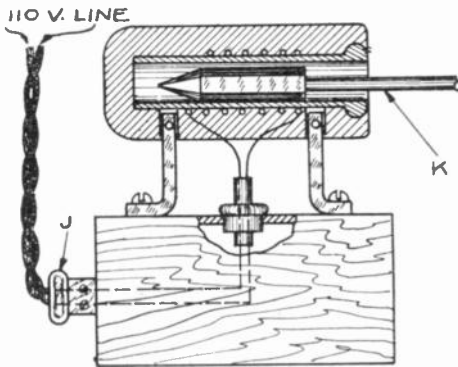

FIG. 6
All that will be necessary to connect the furnace will be to slip a connecting plug (J), Fig. 6, on the connection (I). A flatiron cord makes a very good cord for connecting the furnace with the current supply.
To heat, connect up the furnace, turn on the current and put the iron in the tube, Fig. 6.